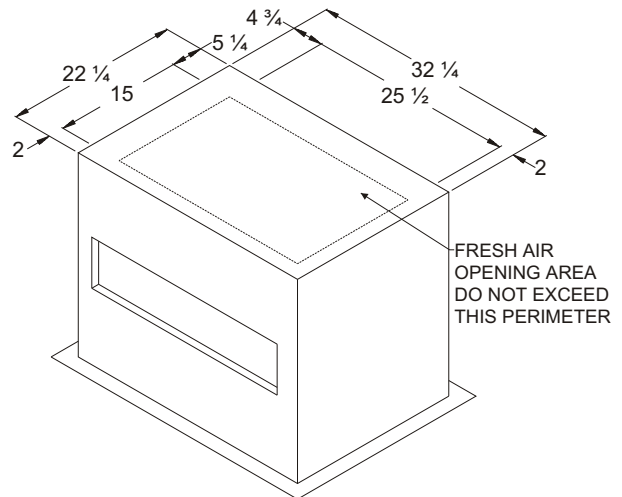

Figure 5
Step 3- Cut the openings for the ductwork going to the air handler and the fresh air supply. The fresh air always comes out the top. The return duct going to the air handler can go to either side of the plenum. **Note:** Be sure to cut the return and barometric openings on the correct sides of the plenum. Also cut the opening for barometric relief damper. Make sure to stay within the available area of the plenum as shown in Figure 5, 6 and 7.
Potentiometers with screwdriver adjustment slots, located on device face, provide adjustments for several parameters (see **Figure 5** for locations on device):